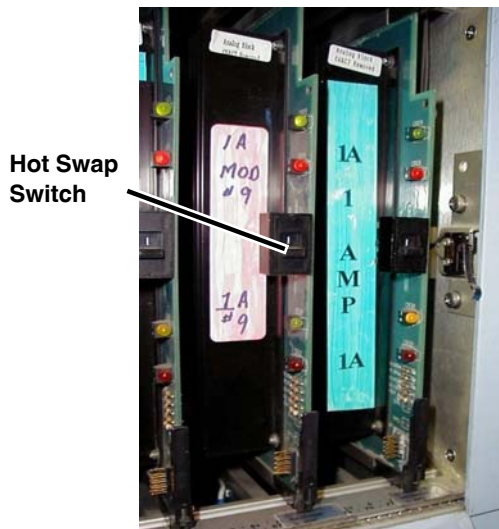

Figure 2-4: Hot Swap Switch
- a. Move the hot swap switch on the card from the “1” position to the “0” position (see Figure 2-4, below).